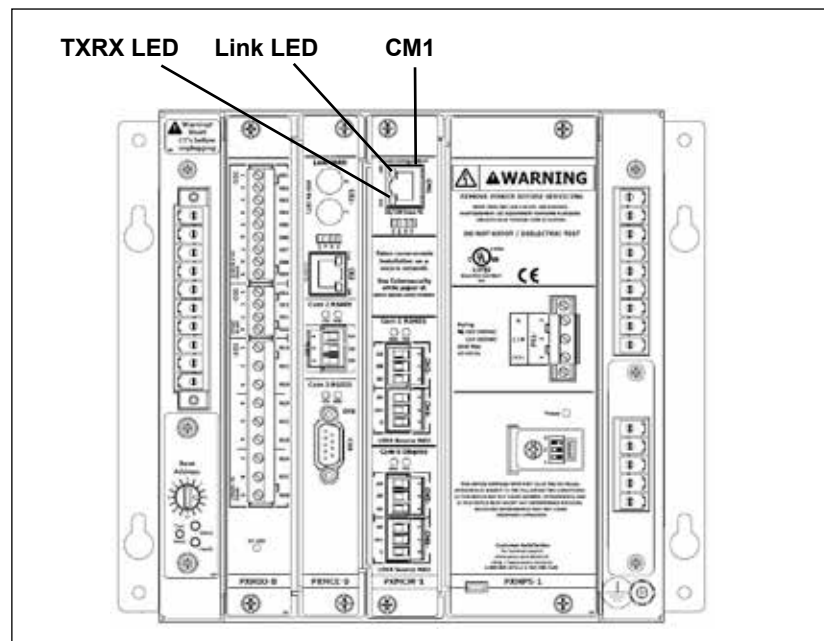

Figure 4: Connect Laptop to Meter.
- A. Connect the Laptop to the Meter via CM1 port (see Figure 4 below) using a UTP **Cat5 Patch Cable**. Note that the IP address of the CM1 port is configured to be 192.168.1.1.